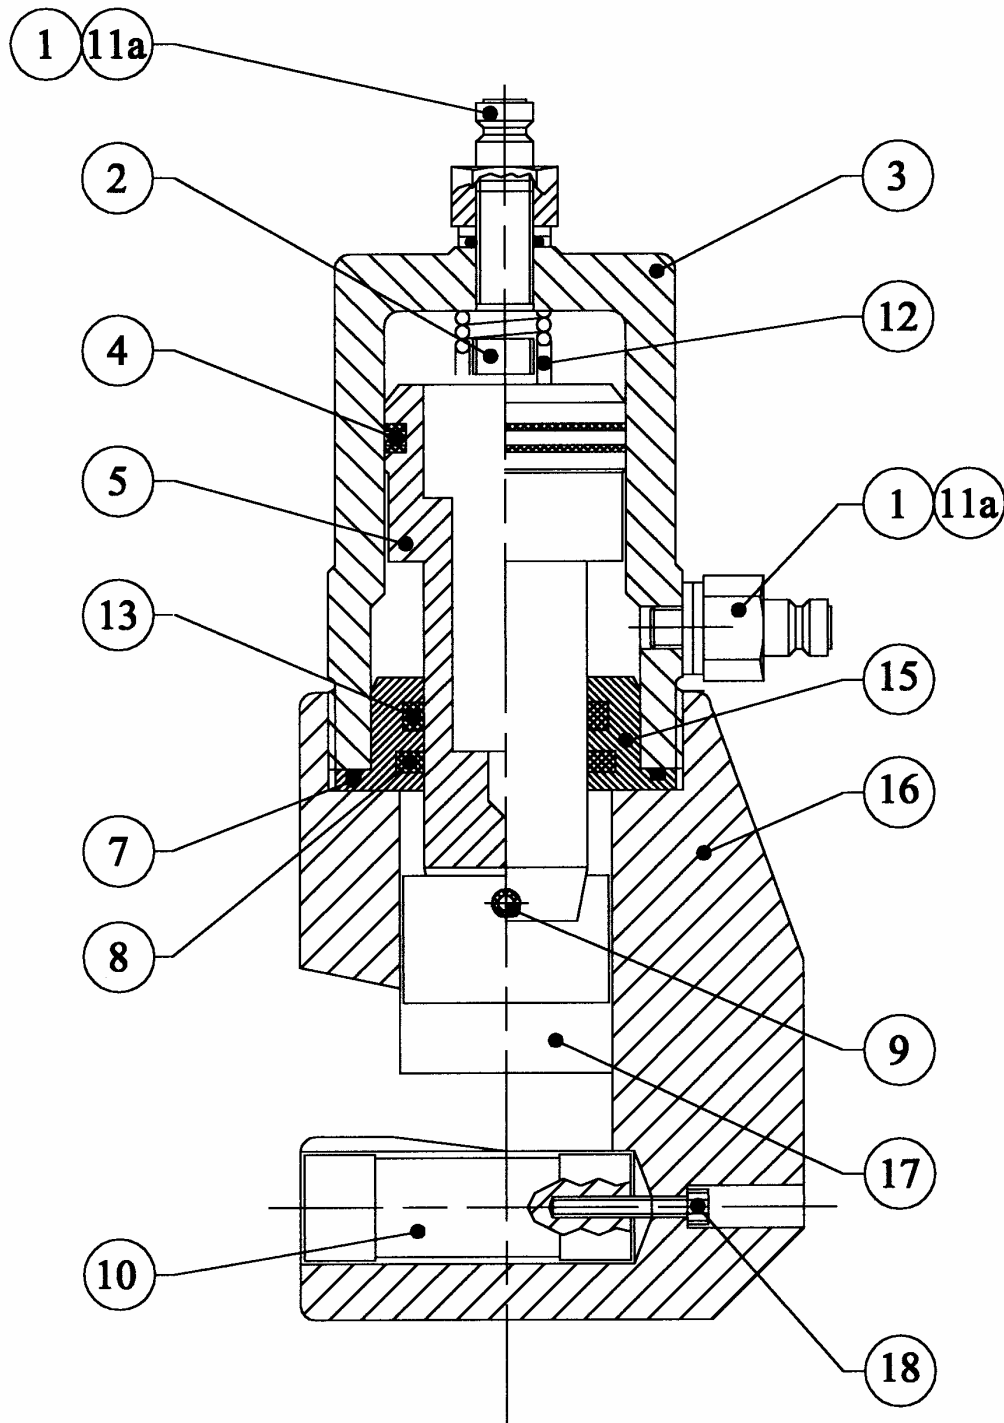

FIG. 3
**Cutter Re-Assembly:** Double Acting WC/WCO Type (Numbers in brackets refer to Table 3 & Figure 3)